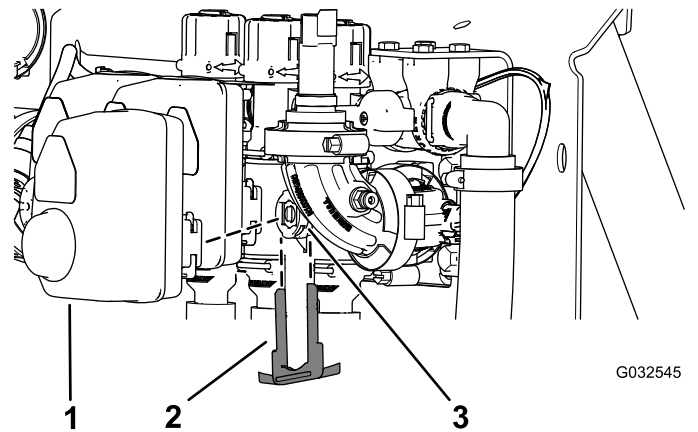

Figure 109
- Remove the retainer that secures the actuator to the manifold valve for the section valve or agitation valve (Figure 109).